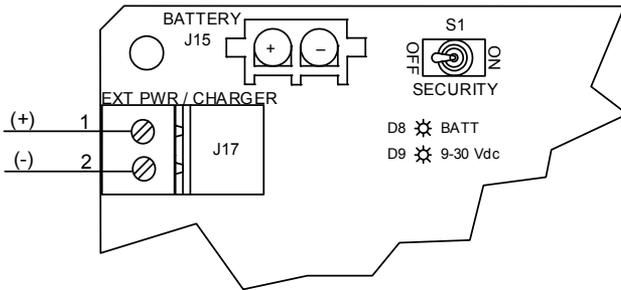

Figure 9: μ FLOG⁵ power connections and power option selector
- d. Insert each solar panel cable wire, as identified by the cable label (+ or -), into the corresponding pin (1 or 2), as shown in Figure 9, and gently tighten the terminal connector screws.
- e. Insert each power supply cable wire (+ or -) into the corresponding pin (1 or 2), as shown in Figure 9, page 15, and gently tighten the terminal connector screws.